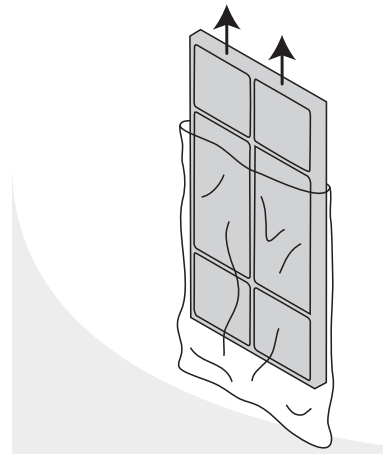

FIG. 6
1. **Remove** the odor filter from its plastic bag (Fig. 6).